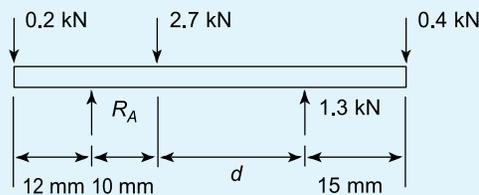

Figure 5.16
1. Calculate the force  $R_A$  and distance  $d$  for the beam shown in Figure 5.16. The mass of the beam should be neglected and equilibrium conditions assumed.